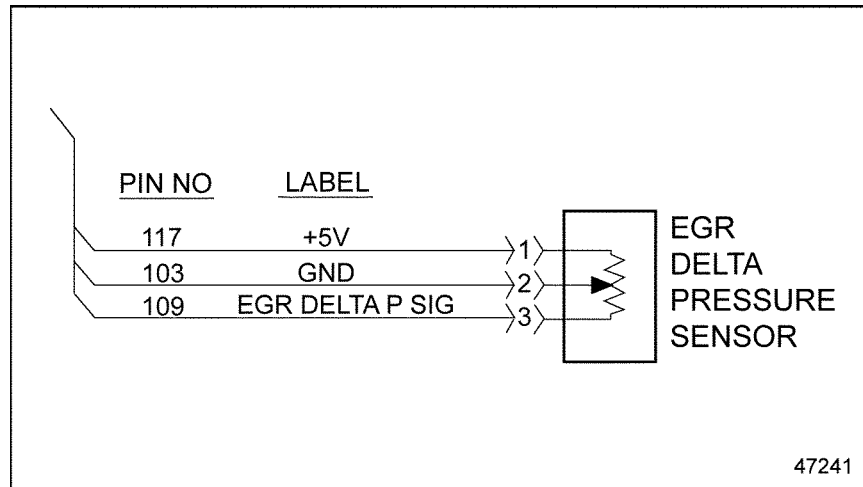

Figure 39-2 EGR Delta P Sensor
- [b] If the resistance is less than 5Ω , repair the short between pins 103 and 109 of the 120-pin MCM connector. See Figure 39-2. Refer to section 39.3.1.1.